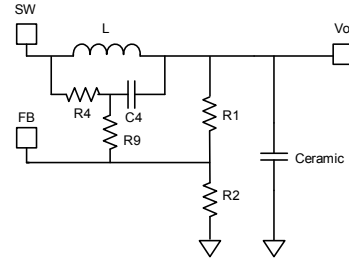

Figure11—Simplified Circuit of Ceramic Capacitor
The output voltage is influenced by ramp voltage V_{RAMP} besides R divider as shown in Figure 11. The V_{RAMP} can be calculated as shown in equation (5). R2 should be chosen reasonably, a small R2 will lead to considerable quiescent current loss while too large R2 makes the FB noise sensitive. It is recommended to choose a value within 5kΩ-50kΩ for R2, using a comparatively larger R2 when V_o is low, etc., 1.05V, and a smaller R2 when V_o is high. And the value of R1 then is determined as follow: